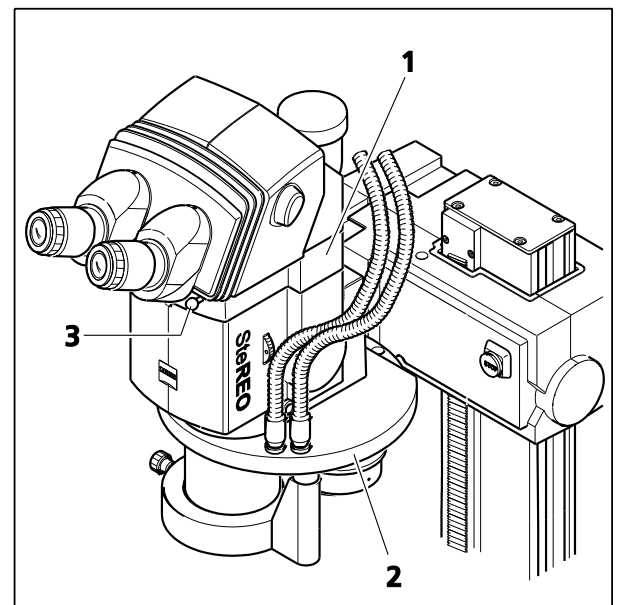

Fig. 35 Objective nosepiece S/doc, 3x, 6x cod.; Y intermediate tube S
The objectives are changed by rotating the objective nosepiece (Fig. 35/2) to the lock-in position of the desired objective. It is recommended to hold the nosepiece on the right by the slit-ring illuminator $d = 66$ mm without light guide.
If an Y intermediate tube (Fig. 35/1) has been attached, a binocular image can be produced in the macroscope position of the objective by pushing in the lever (Fig. 35/3).
- Push in the slide rod (Fig. 35/3) on the Y intermediate tube (Fig. 35/1) in order to obtain a binocular image in the macroscope position.
- Pull out the slide rod (Fig. 35/3) for stereoscopic observation.